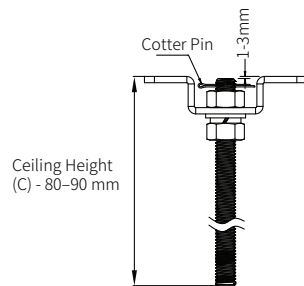

Figure 7
- Rod Assembly Method: Secure the rods to the mounting plate's elongated holes using M8 nuts. Ensure the rod heads do not protrude from the plate. Drill holes for cotter pins to prevent nut loosening and accidents. Cut the rods to the required length based on ceiling height (Figure 7).